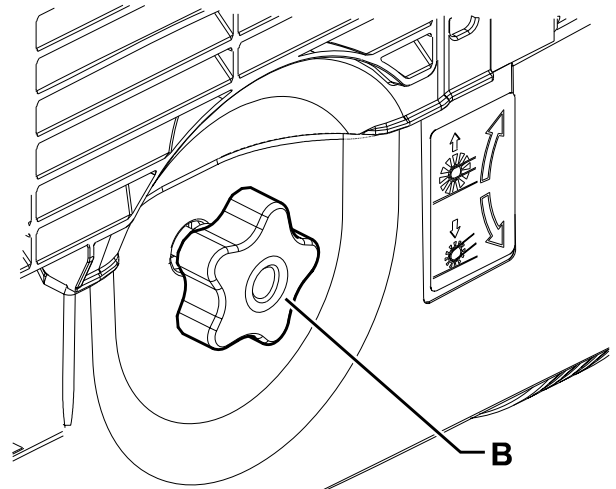

Figure 3
13. Turn the ignition key (2) to "0".
14. Turn the knob (B, Fig. 3) as shown below: